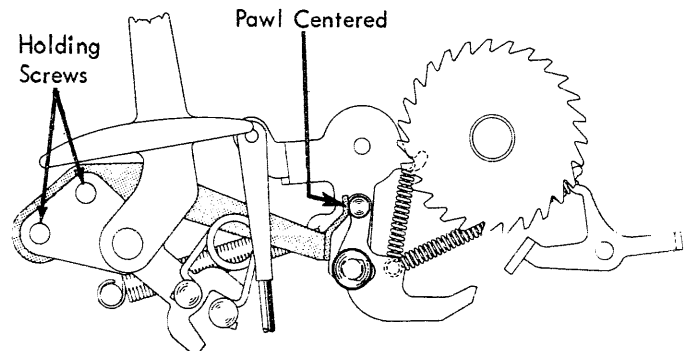

FIGURE 156. Vertical Adjustment of Index Selection Cam
- b. Adjust the selection cam up or down so that the index pawl is centered on the cam surface with the selection lever in the single line space position (Fig. 156).